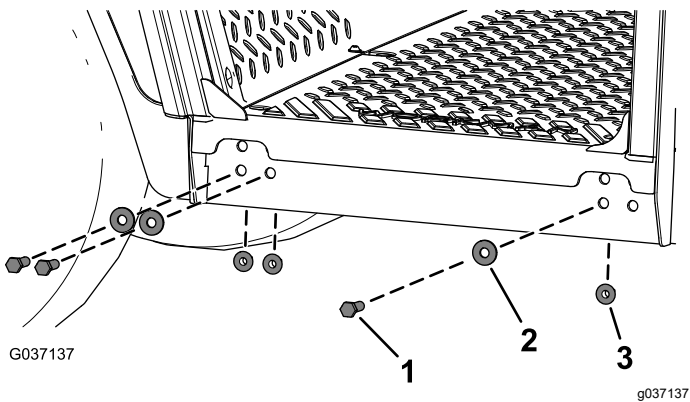

**Figure 11**
- Lift the cab frame using the lift points and place it on the machine (Figure 11).